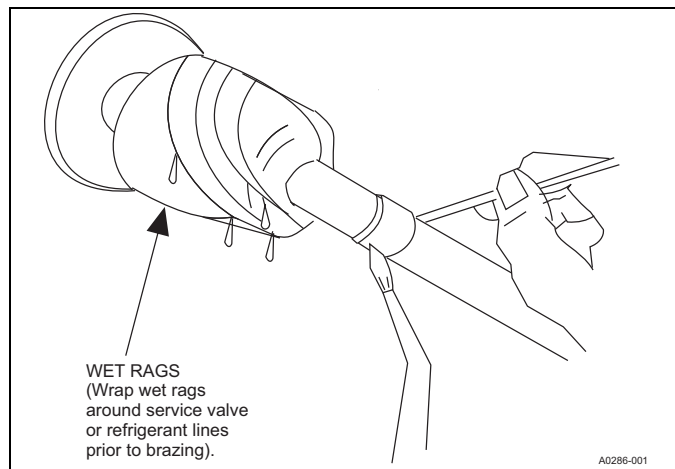

Figure 5: Heat protection
Precautions should be taken to prevent heat damage to the service valve by wrapping a wet rag around it as shown in Figure 5. Also, protect all painted surfaces, insulation, and plastic base during brazing. After brazing, cool the joint with the wet rag.
7. Slide the grommet away from the vapor connection at the indoor coil and wrap with a wet rag as shown in Figure 5. Braze the vapor line to the indoor coil vapor connection. After the connection has cooled, slide the grommet back into original position. After this connection has cooled, remove the nitrogen source from the liquid fitting service port.